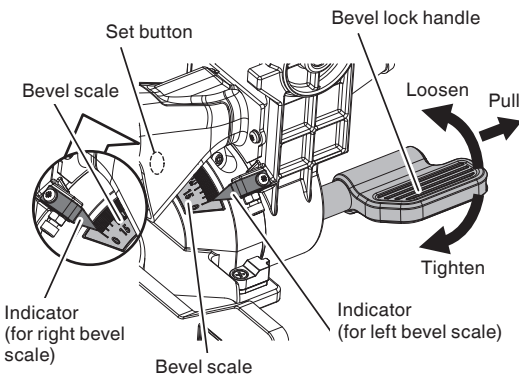

Fig. 22
- (1) Loosen the bevel lock handle and bevel the saw blade to the left or to the right. When tilting the motor head to the right, push the set button.
- (2) Adjust the bevel angle to the desired setting while watching the bevel angle scale and indicator, then secure the bevel lock handle. When contacting the work bench and the main body, pull the bevel lock handle in the direction of the arrow mark as illustrated in Fig. 22, and change the direction of the bevel lock handle.
- (3) Turn the LED light on and position the workpiece on the table for pre-alignment of your cut.
(4) By using angle block (A) and angle block (B), you can easily set up bevel angles of 33.9°, 45°, or 48°. For details, see the "Bevel angle 33.9°, 45°, 48°" section on page 19.